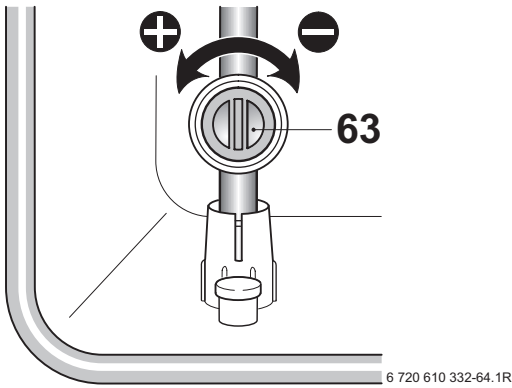

Fig. 41
- ▶ Adjust the gas flow restrictor (63) to obtain the CO₂ level given in Table 16. Refer to fig. 41